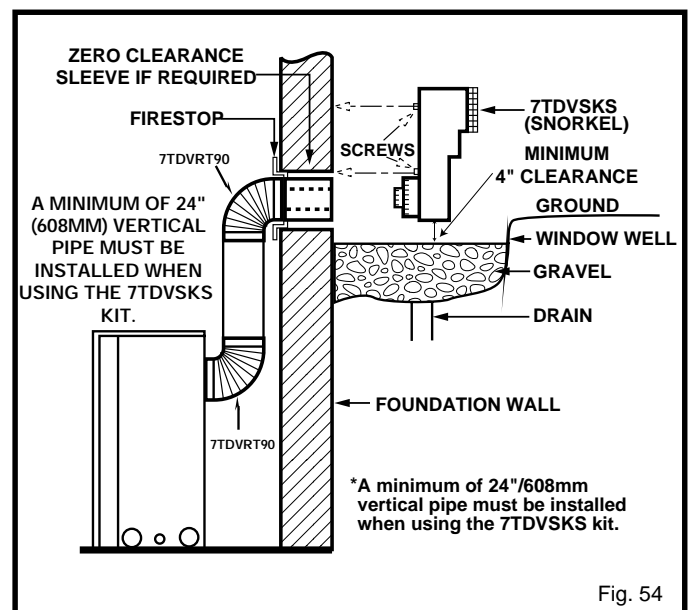

Fig. 54
2. Remove soil to a depth of approximately 16" below base of snorkel. Install window well (not supplied). Refill hole with 12" of coarse gravel leaving a clearance of approximately 4" below snorkel. (Fig. 54)
7. Level the soil so as to maintain a 4" clearance below snorkel (Fig. 54).